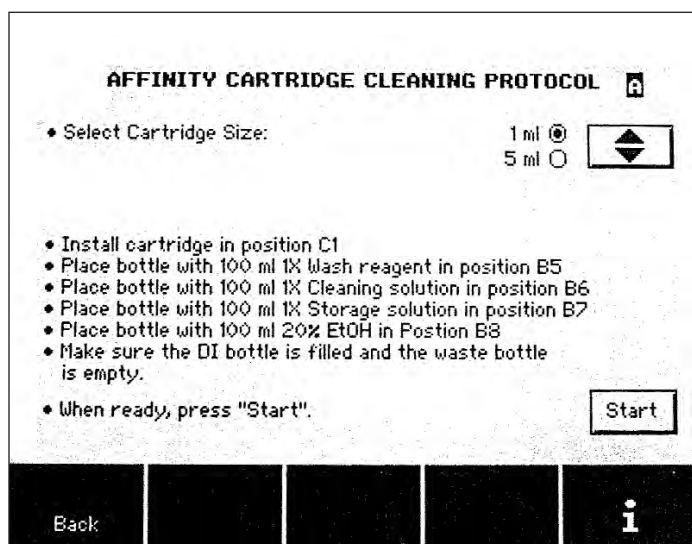

Fig. 9.16. Affinity Cartridge Cleaning in Place screen.
5. Follow instructions displayed on the screen (Figure 9.16).
4. Touch the up and down arrows to enable or disable the air sensors at the system pump inlet and at both sample inlets (Figure 9.16).